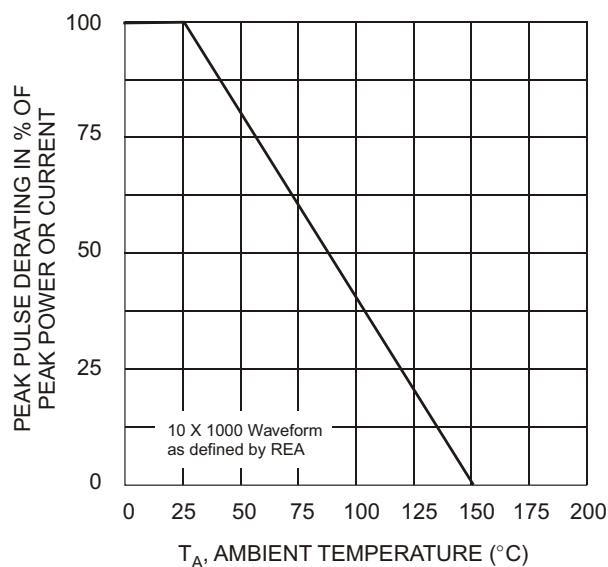
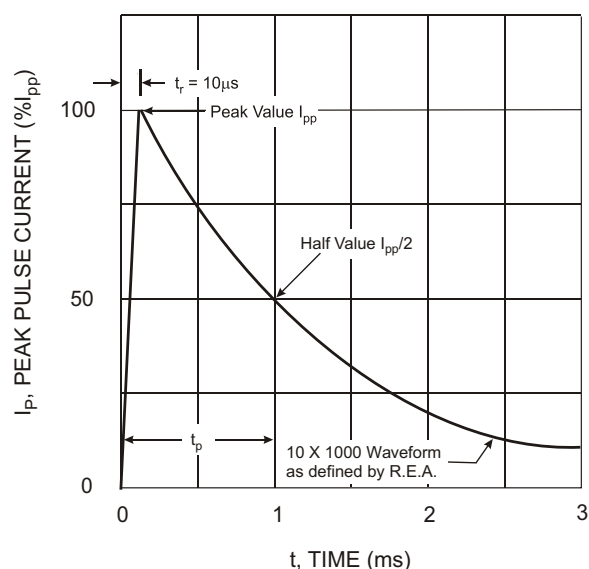

Fig. 1 Pulse Derating Curve
Fig. 2 Pulse Waveform
2. Non-repetitive current pulse per Figure 2 and derate above TA = 25°C per Figure 1.